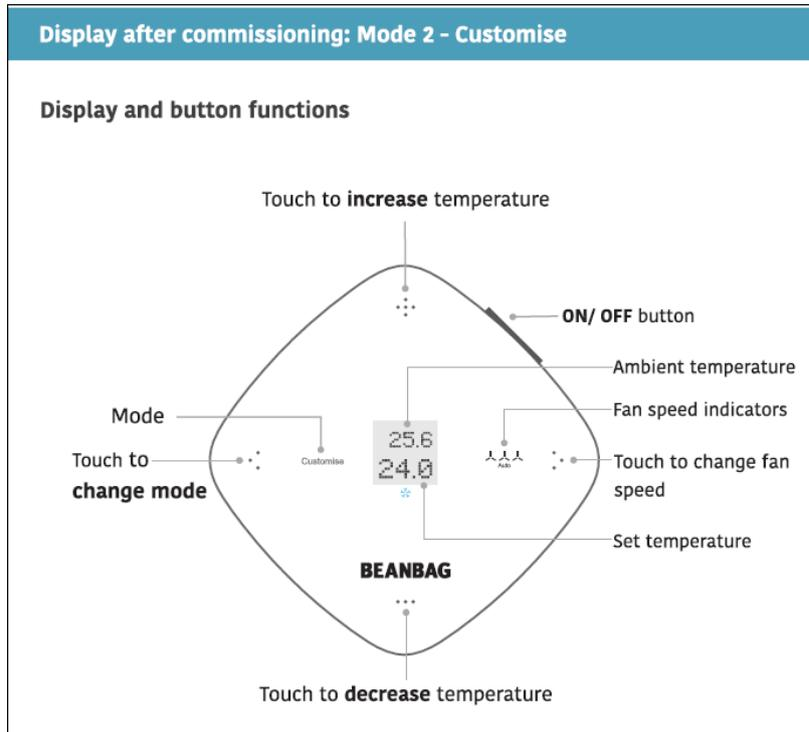

Figure 7: Thermostat 600 series display and user interface - Customise mode
- Customise (manual) mode** – In this mode the device functions like a conventional thermostat and allows you to set the desired temperature and fan speed manually. For details, refer Figure 7. Once set, only the set point temperature is displayed on the screen, after the default timeout.